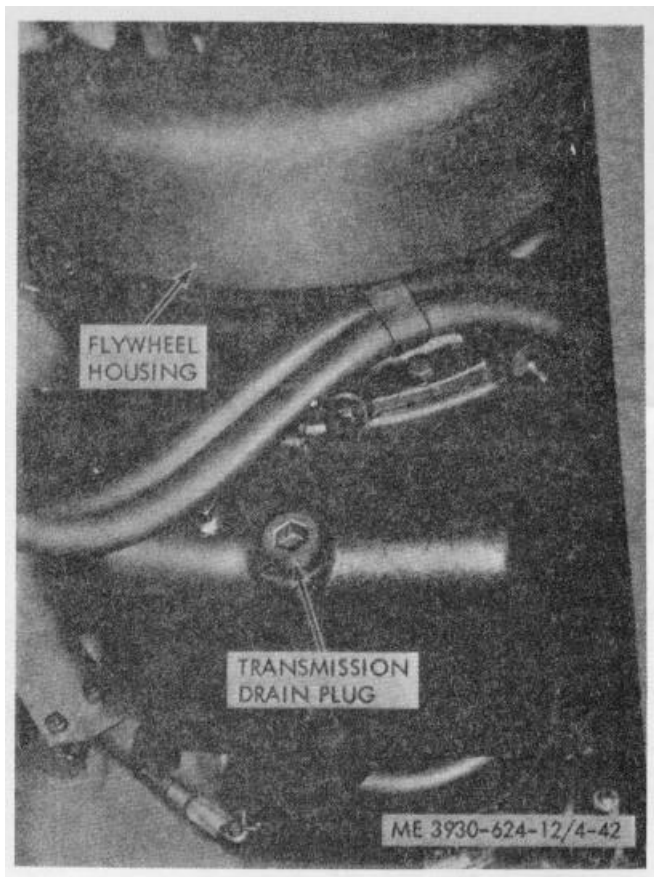

Figure 4-42. Transmission drain plug.
(1) To change the transmission fluid, run the truck to warm the fluid to operating temperature. Drain the fluid by removing the transmission drain plug from the bottom of the transmission (fig. 4-42). Drain fluid from torque converter by removing the floor plate, and the inspection cover from the torque converter housing. Remove the drain plug. Rotate the torque converter 180°. The fluid in the converter will flow into the transmission, and will drain from the transmission drain plug.